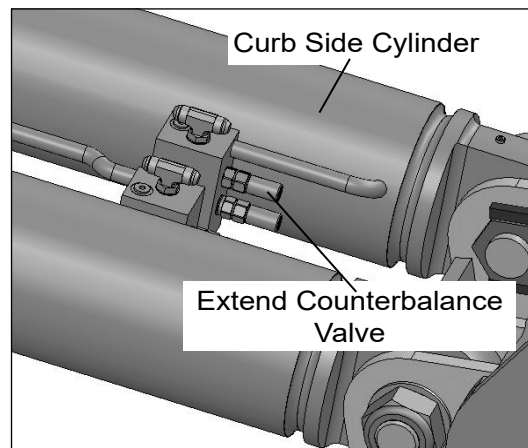

Figure 4 — Inspecting Curb Side Cylinder
- On the curb side cylinder, this is the upper cartridge in the manifold block (refer to Figure 4).